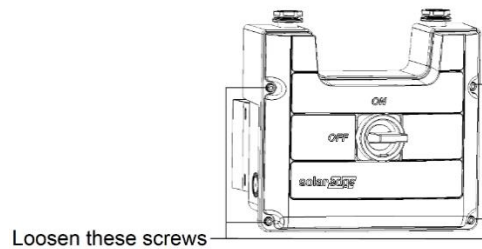

Figure 1: Opening the DC Safety Unit
- 1.1 - modified design guidelines and figure 1.